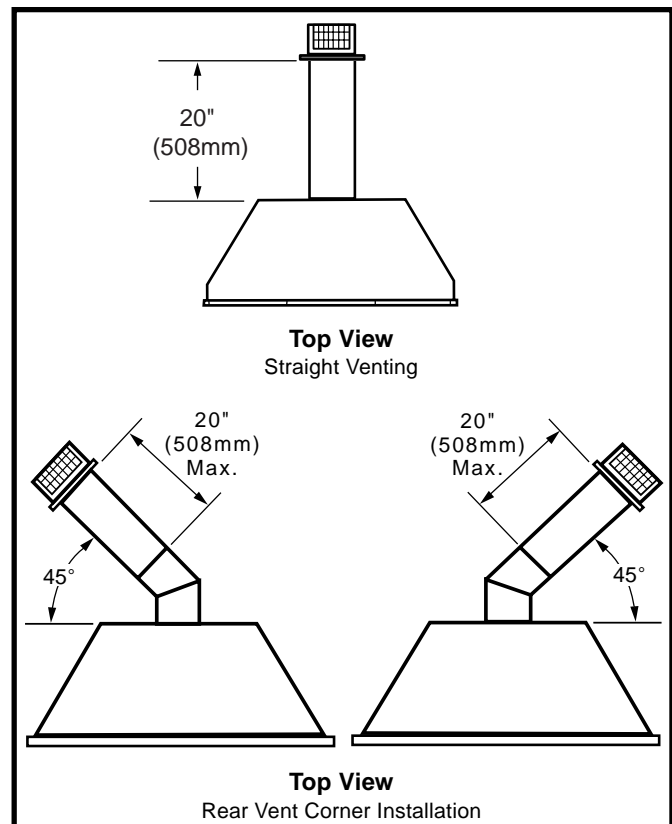

Fig. 13 Rear vent applications, one 45° elbow.
- The maximum horizontal distance between the rear of the appliance (or end of the transition elbow in a corner application) and the outside face of the rear wall is 20" (508mm). (Fig. 13)